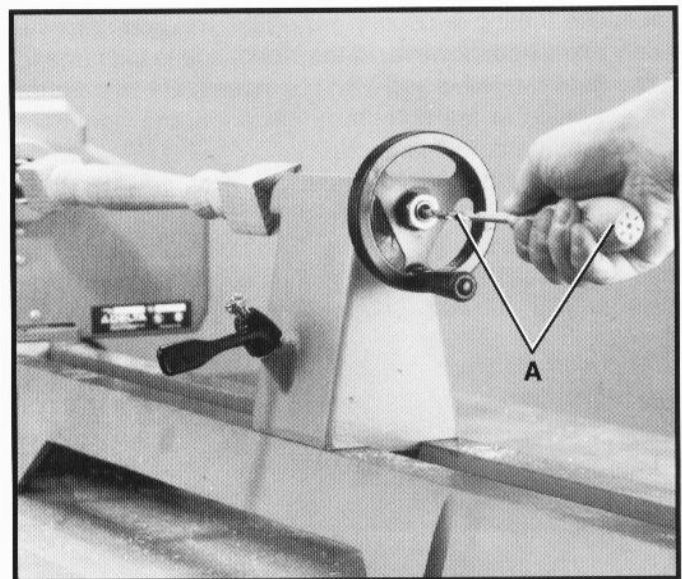

Fig. 92
This wood lathe is supplied with a 5/16" diameter hollow tailstock spindle that permits holes to be bored through the spindle using the accessory 46-708 hollow cup center and a compatible lamp auger (A), as shown in Fig. 92.